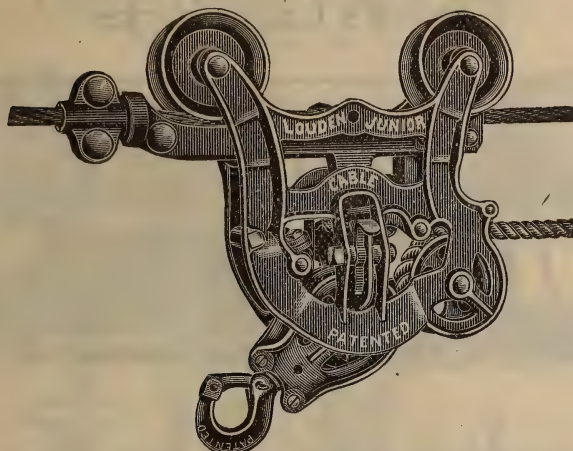

Fig. 621 (Combine)
Fig. 597 illustrates our **Improved Cable Carrier**, Fig. 621, rigged for stacking. It is an excellent arrangement for handling hay easily and quickly, and getting it into the stack at a small cost. This **Stacker** works on the same principle as a Hay Carrier in a barn. The Carrier travels on an overhead Wire Cable Track, that is supported by poles as shown in cut. These poles should be from 28 to 35 ft. long, according to the size of the stack to be built, and should not be of less than 4 x 4 good sound timber. Where it is procurable 6 x 6 is better.
- 1 Cable Carrier, Fig. 621.